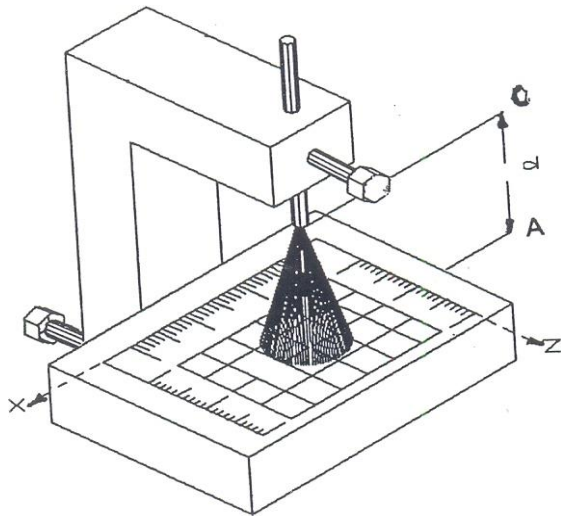

Fig 2 : optical illuminating stand
8. Measure exactly the distance  $d$  and also the vertical and horizontal diameters  $MR$  and  $PN$  as indicated in the Figure 2.